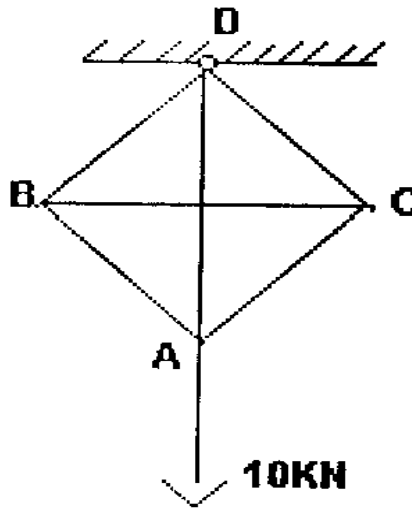

Figure 3:
- (b) A frame work consists of six bars of uniform cross sectional area and hinged together to form a square with two diagonals, is suspended from one end. At the opposite corner a load of 10kN is-suspended. Calculate the forces in all the members. The diagonals act independently. Figure 3 [6+10]